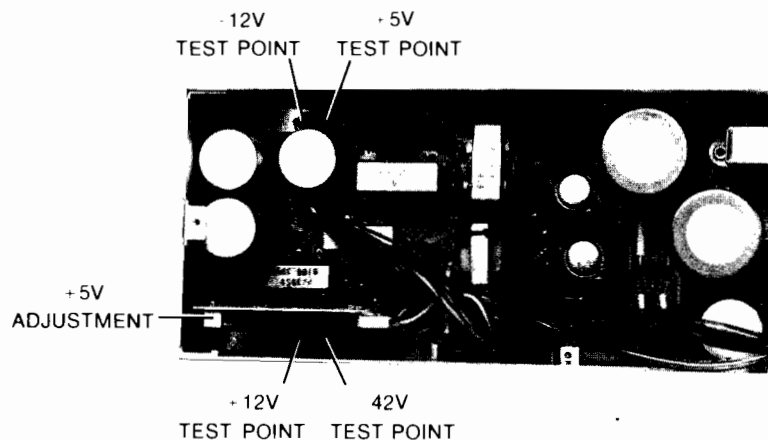

Figure 11-4. Power Supply Test Points
3. Check the voltages at the following points with the multimeter. (See figure 11-4.)